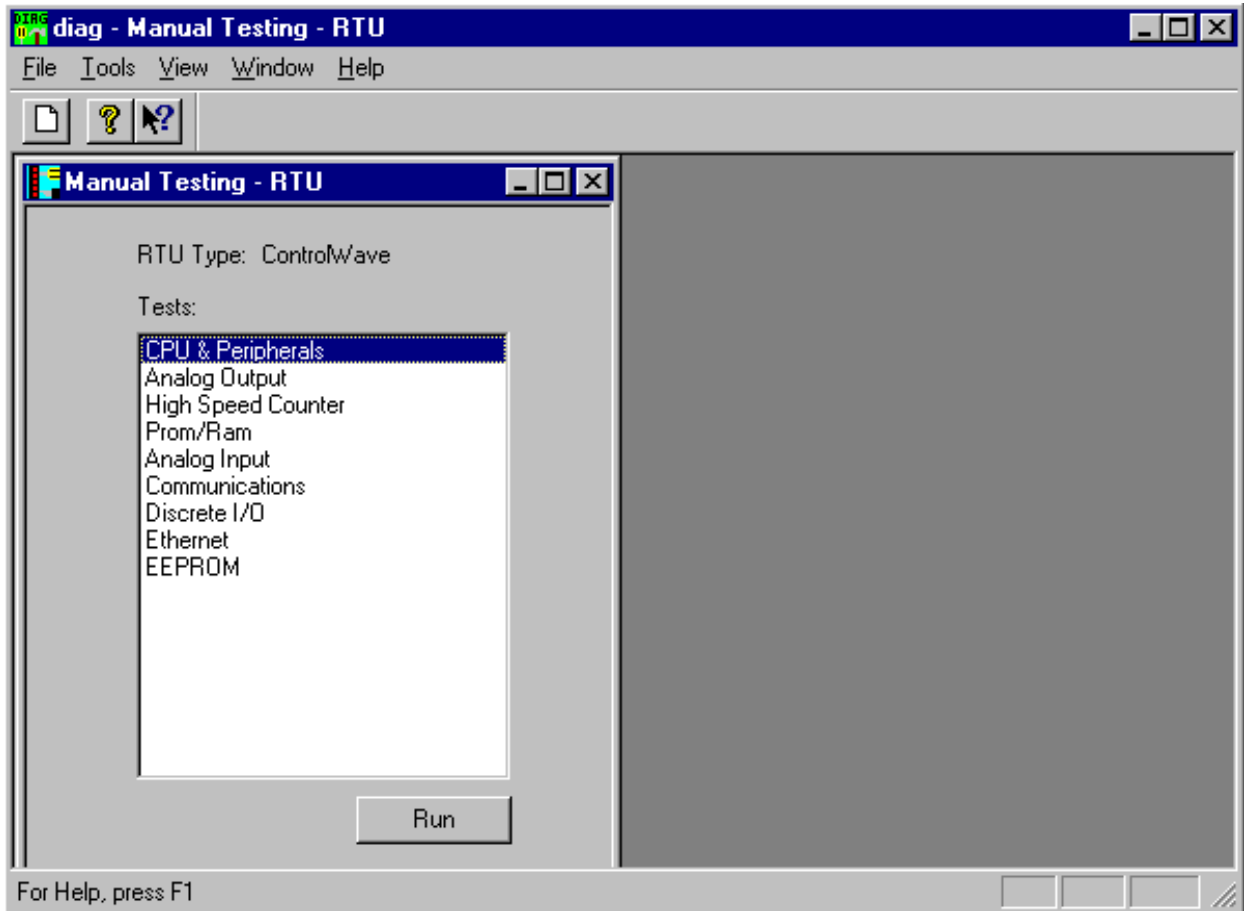

Figure 3-9 - WINDIAG Main Diagnostics Menu
3. Once WINDIAG has been entered, the Main Diagnostics Menu of Figure 3-9 will appear.
All **ControlWave/ControlWaveEXP** Modules except the Power Supply/Sequencer Module can be tested using the WINDIAG program. **ControlWave** Redundant I/O and Communication Switch Unit Modules are indirectly supported by the WINDIAG program. **ControlWave** I/O Redundancy Switch Modules can be tested indirectly via WINDIAG, i.e., by running WINDIAG in conjunction with the associated **ControlWave/ControlWaveEXP** I/O Module, all individual I/O points can be checked. The communication Ports on the **ControlWave** I/O Redundancy Control Module can be checked along with the associated **ControlWave/ControlWaveEXP** communication ports via WINDIAG's Communication Diagnostics. From WINDIAG's Main Diagnostics Menu (see Figure 3-9) the following diagnostic tests can be performed: